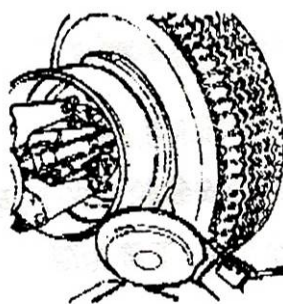

Fig2.7
- 4) Adjust the position of removing and fixing hook. The position of it must between rim and the edge of the tire. The distance to the edge of tire is about 5mm (Fig2.7). Turn the tire in the clockwise direction. The tire is fixed.